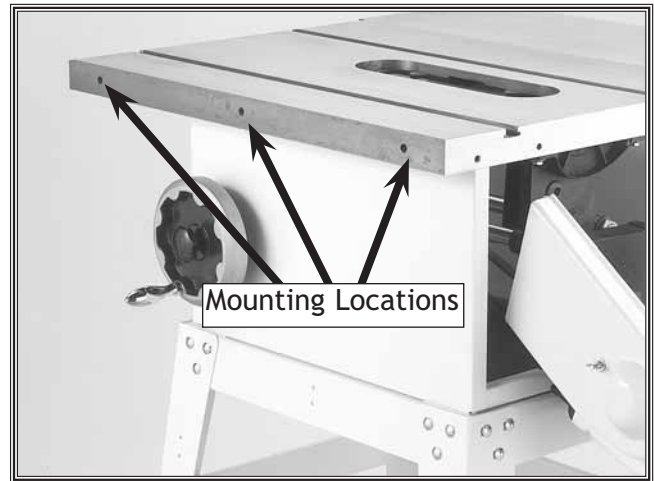

Figure 25. Extension wing mounting locations.
1. Position the extension wing over the mounting locations in **Figure 25**.